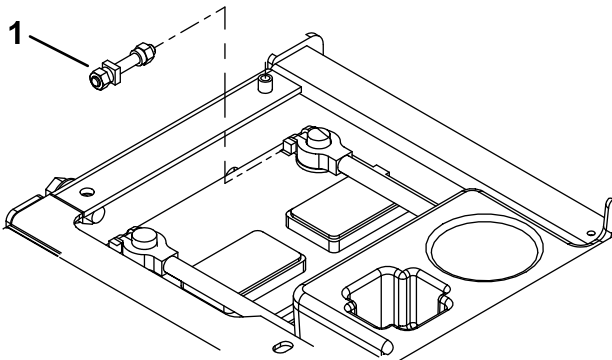

Figure 9
12. Loosely install the new battery clamp bolt/ground stud (Figure 9).